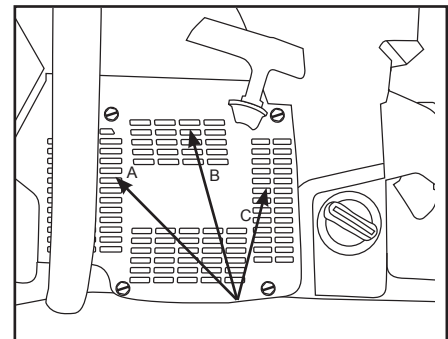

Figure 3
- After each usage, thoroughly flush the starter housing assembly with water. (Figure 3)